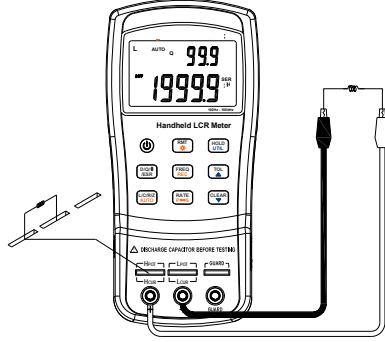
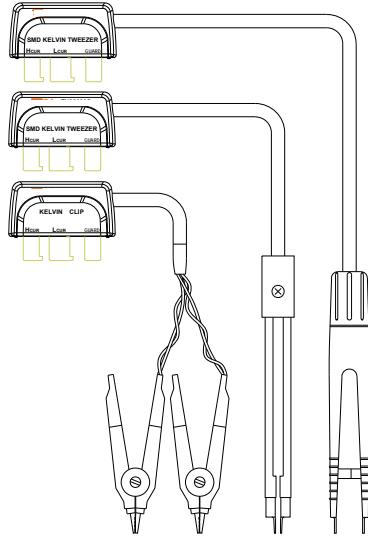
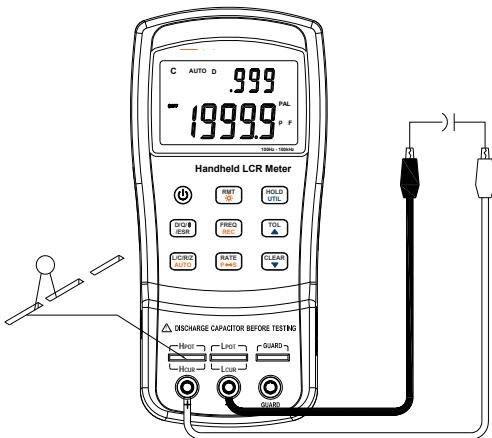
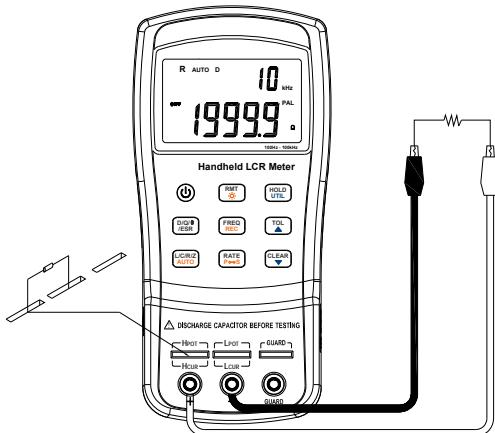

Figure 12- Inductance Measurement
Figure 13- 4-terminal Test Accessories
Figure 14- Capacitance Measurement
Figure 15- Resistance Measurement
- Insert an inductor into test slots or connect a tested inductor through a proper test accessory (e.g., banana plug-crocodile clip test leads, test fixture or SMD test tweezers). See figures 12. And figure 13 shows the optional 4-terminal test accessories.
3. Insert a capacitor into test slots or connect a tested capacitor through a proper test accessory (e.g., banana plug-crocodile clip test leads, test fixture or SMD test tweezers). See figure 14. And figure 13 shows the optional 4-terminal test accessories.
3. Insert a resistor into test slots or connect a tested resistor through a proper test accessory (e.g., banana plug-crocodile clip test leads, test fixture or SMD test tweezers). See figure 15. And figure 14 shows the optional 4-terminal test accessories.
3. Insert impedance (resistor, capacitor or inductor) into test slots or connect tested impedance through a proper test accessory (i.e., banana plug-crocodile clip test leads, test fixture or SMD test tweezers). Figure 13 shows the optional 4-terminal test accessories.